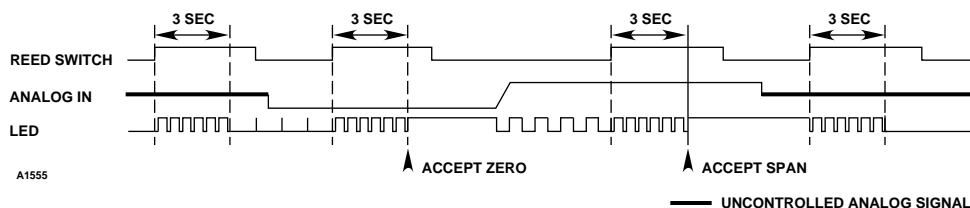

Figure 29—Calibration Algorithms "A" and "F"
The following section describes the calibration sequences that are used for calibrating various detection devices. Refer to the System Configuration Matrix, form number 95-8453, to determine the calibration algorithm that is used for the type of detector being calibrated. Refer to Figures 29 to 33 for calibration algorithms.
1. Activate the reed switch or input 1 on the communication module (See Figure 29). The red LED blinks at a 2 Hz rate while the reed switch or input 1 is closed.